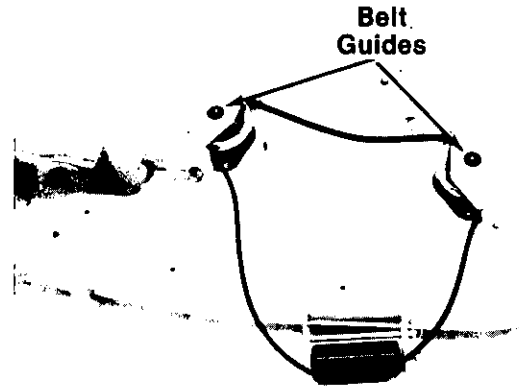

FIGURE 24.
2. Remove the two belt guides from the mower housings. See figure 24.